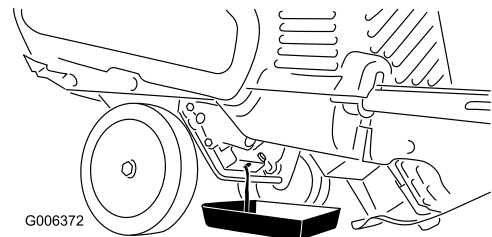

Figure 29
- Place an oil drain pan under the oil drain plug, remove the oil drain plug, and tip the machine backward and drain the used oil in the oil drain pan (Figure 29).